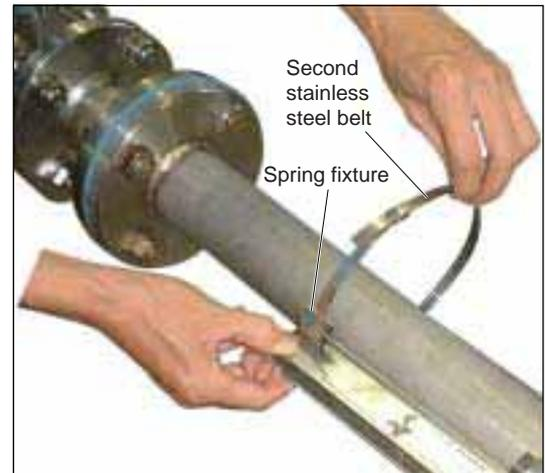

Fig. 3-7
- (6) Adjust the frame so as to be in parallel with the pipe, put the spring fixture to the side of the frame as shown in Fig. 3-7, and tighten the stainless steel belt so that the frame will tightly be fitted.